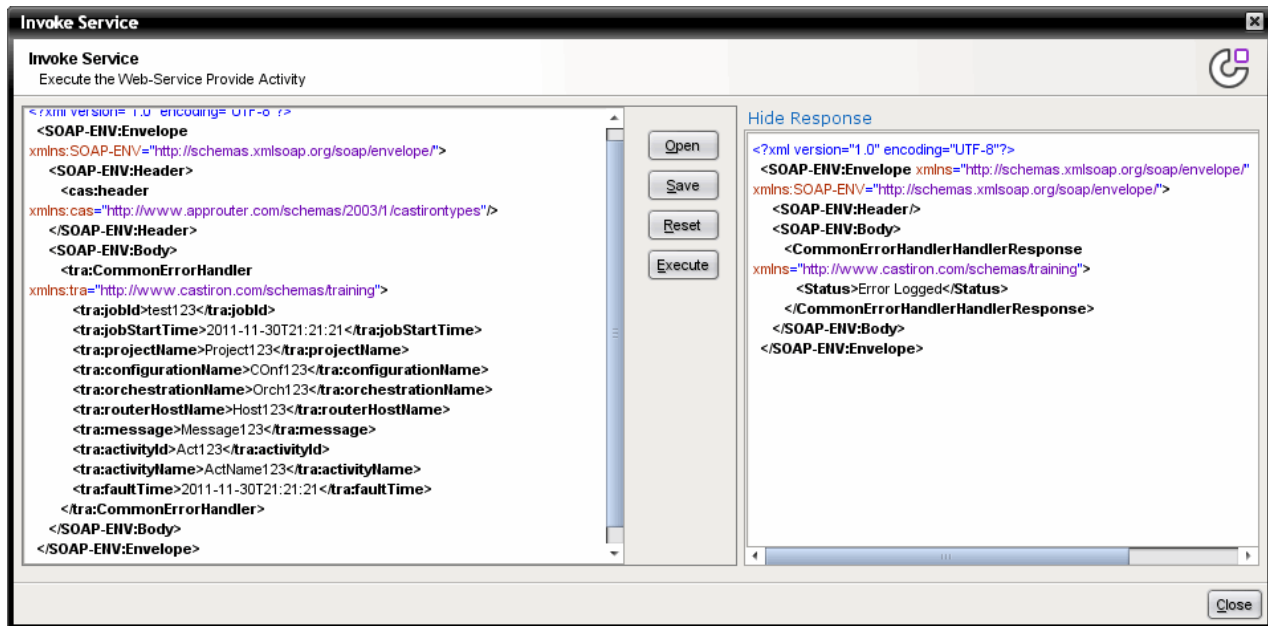

Figure 7-33 Invoke Service result
- c. View the results by clicking **Show Response**, as shown in Figure 7-33. Validate that the result is as expected.